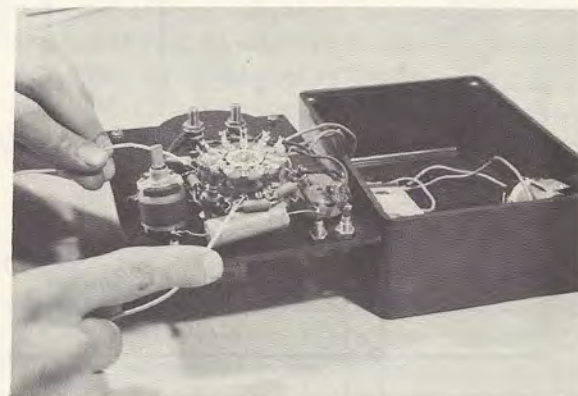

Fig. 8-14
5. With the 6-inch lead that you just prepared, short out the 80.1 k-ohm resistor  $R_4$ , as shown in Fig. 8-14.